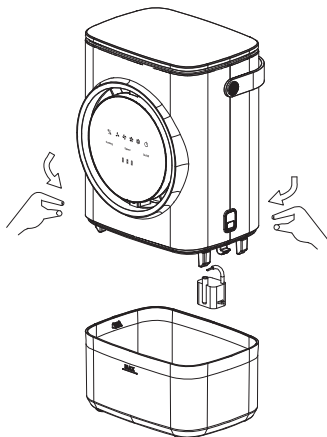
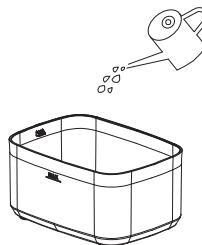

Figure 3
Figure 4
- To fill the Water Tank, press the locking tabs on the sides of the water tank to release the main unit from the water tank and lift upwards. Add water into the tank (Figure 3 and Figure 4).